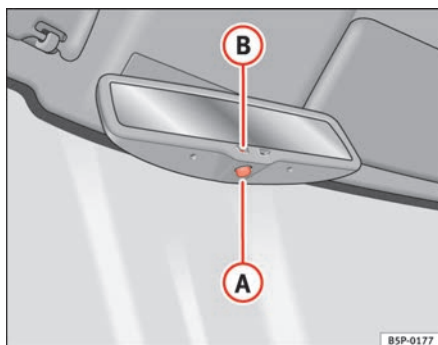

Fig. 86 Automatic anti-dazzle interior mirror.
- Press button **A** ⇒ fig. 86. Warning lamp **B** goes out:
- Press button **A** ⇒ fig. 86. Warning lamp is lit.